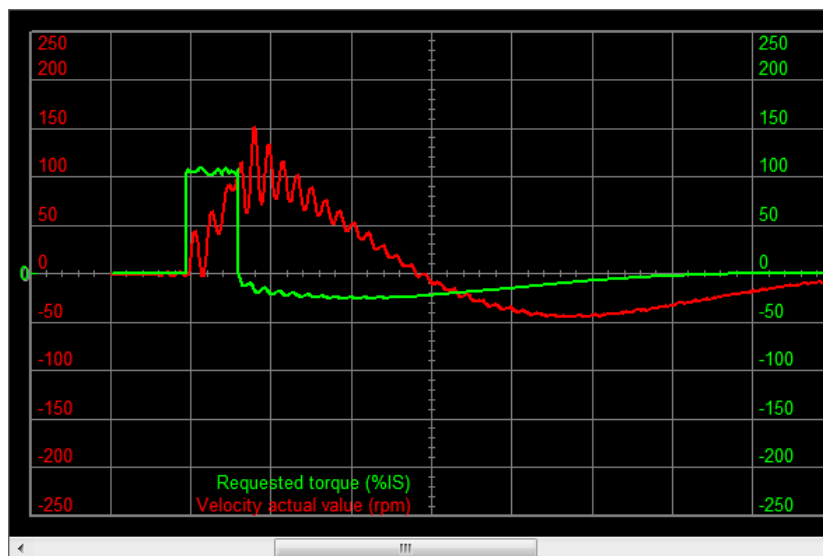

Figure 20.10. Example of a not valid estimation, with not rigid mechanical transmission.
- At last, if the stop presents a behaviour similar to the one that's reported in Figure 20.10, so with wide and persistent vibrations, the system is unstable and it has to be stabilized (see the points 3. System stabilisation and 4. Filters of the *Detailed Tuning Guide*).